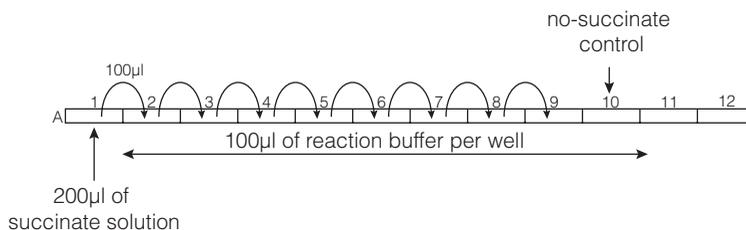

Figure 5. Dilution scheme for creating a succinate standard curve.
3. Perform a serial twofold dilution as shown in Figure 5 by transferring 100 μ l from well A1 to well A2 and pipetting to mix. Transfer 100 μ l from well A2 to well A3 and pipetting to mix. Repeat for wells A4 through A9. Discard the extra 100 μ l from well A9. Do not add succinate to the no-succinate control reactions in well A10.